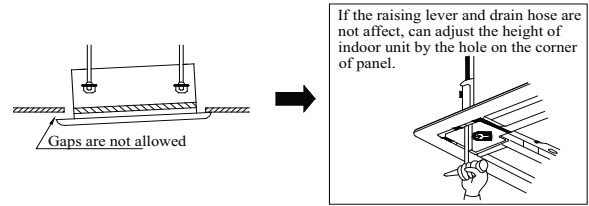

Fig. 17 — Improper Screwing
- (2.) If a gap still exists between the ceiling and decoration panel after tightening the screws, readjust the height of the indoor unit (see Fig. 17).